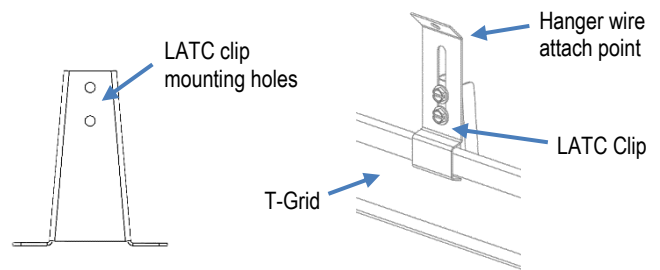

FIG. 13: ATTACHING LATC CLIPS TO T-GRID
- d. Once fixture is in T-Grid, attach LATC clips to LATC Adapter using screws provided. (Use LATC clips at all 4 locations). See Figure 13.
- Two switches located on the back of the Main Driver Enclosure allow for adjustment of the light output and the color of light (CCT) produced. See Figure 13.